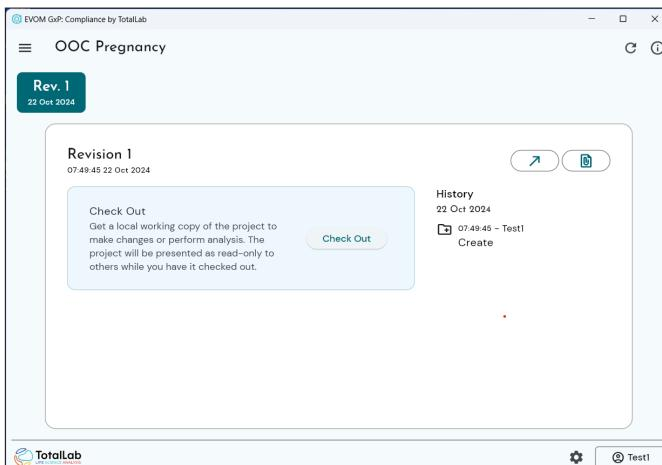

Fig. 53—The EVOM™ GxP Client Project window shows the revision 1.
5. After you enter a project name the New Project button becomes active. Press the New Project button to create your project. The project window appears showing Rev. 1 (Fig. 53).